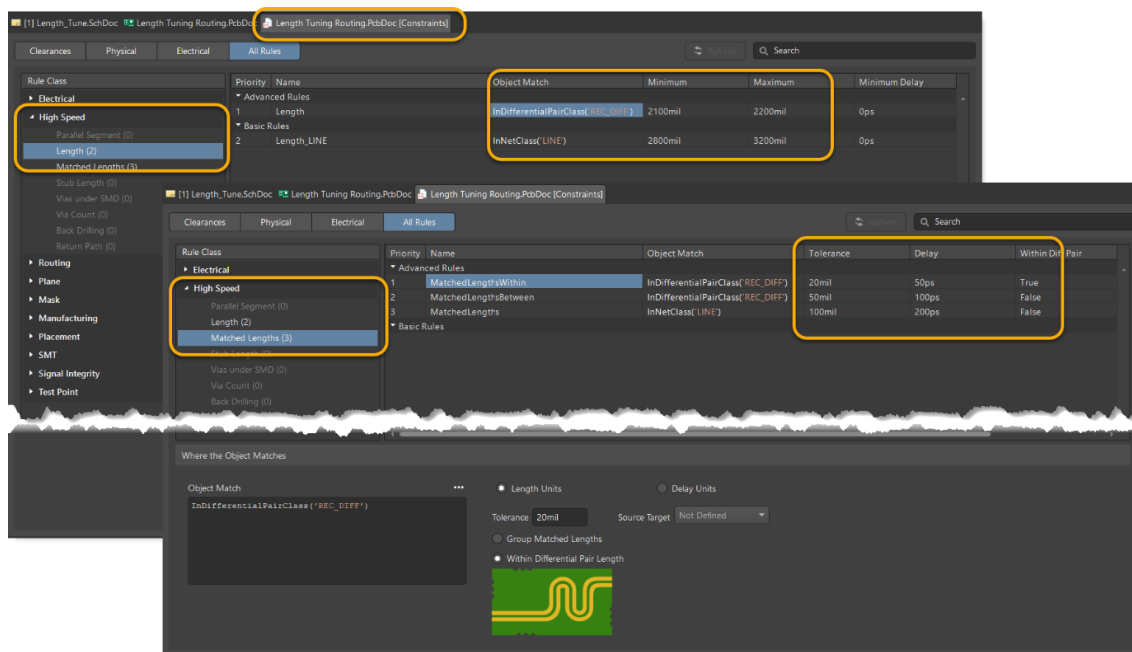

Figure 1. High-Speed Design Rules
12. Scroll down and expand the *High-Speed* rule category as shown in Figure 1.